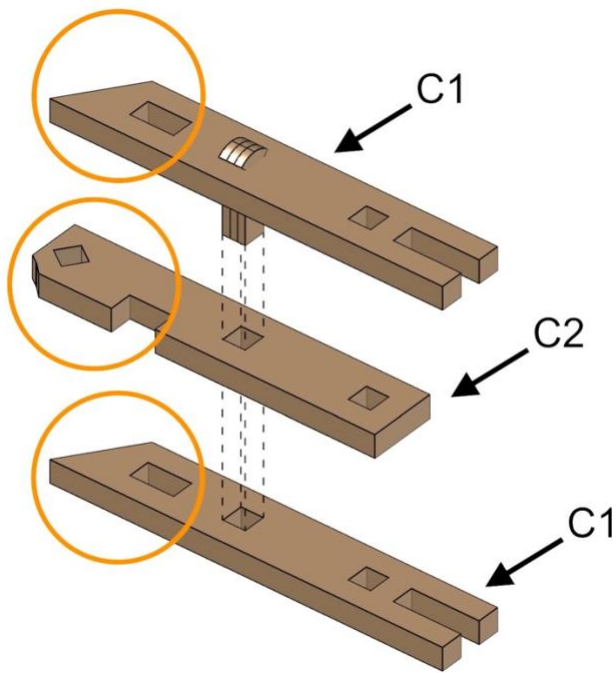

Fig. 35
- Align parts exactly as shown in Fig. 35.